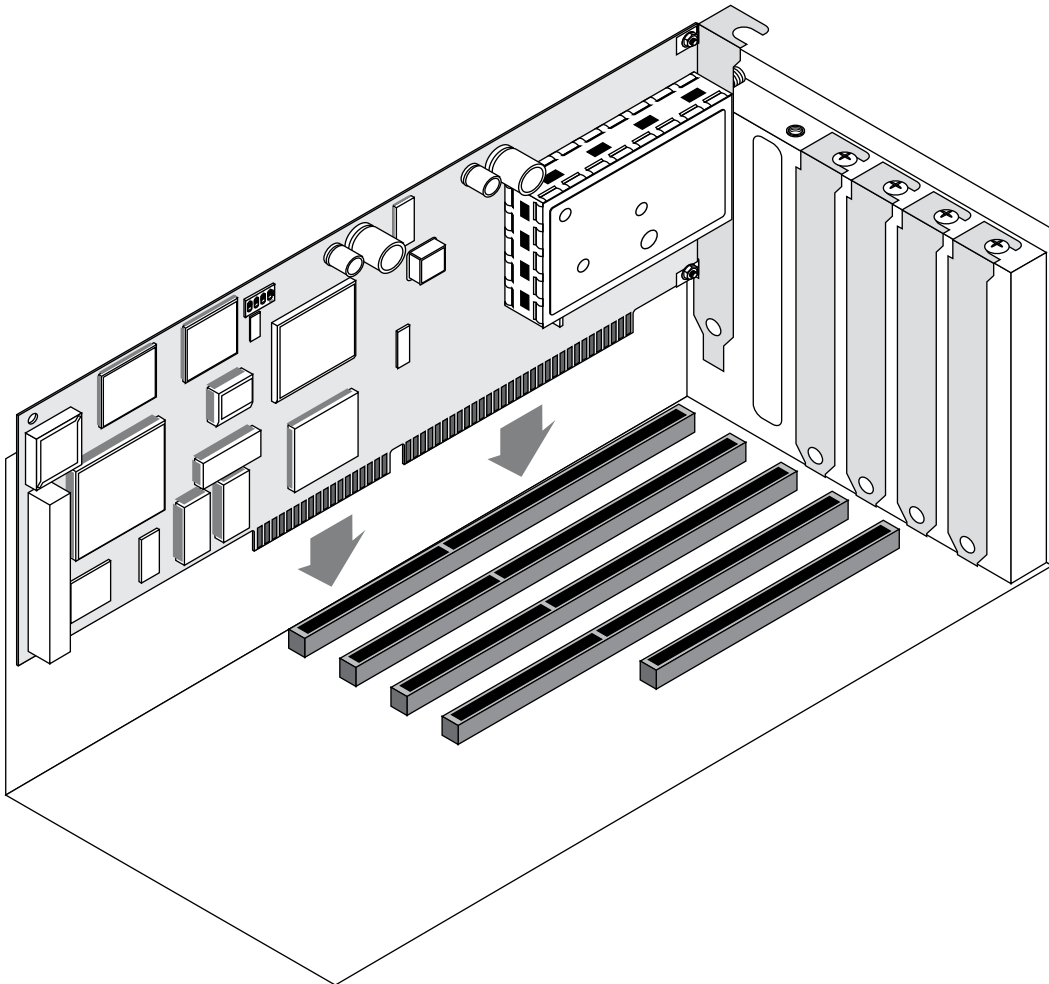

Figure 2-8. Installing the DirecPC adapter into the slot
9. Install the DirecPC adapter into the slot as follows: while being careful not to damage the cable connector (see figure 2-6 for location) align your adapter's 16-bit slot connector with the expansion slot and firmly press on the adapter until it is fully seated into the slot (see figure 2-8).